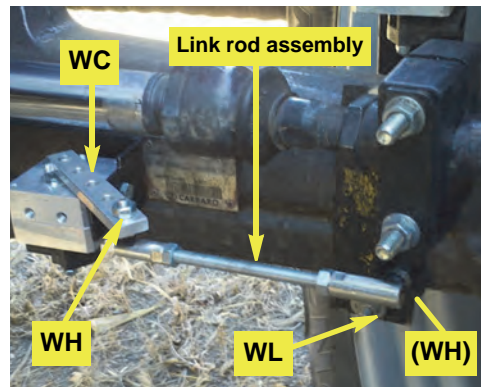

Figure 2d: WAS link rod installed
- d. Using nuts **WH**, install the link rod assembly from step 1 between the last hole in WAS arm **WC** and bracket **WL**. Set the swivel stud upward into **WC**, forward into **WL** (Figure 2d). Leave **WH** loose.